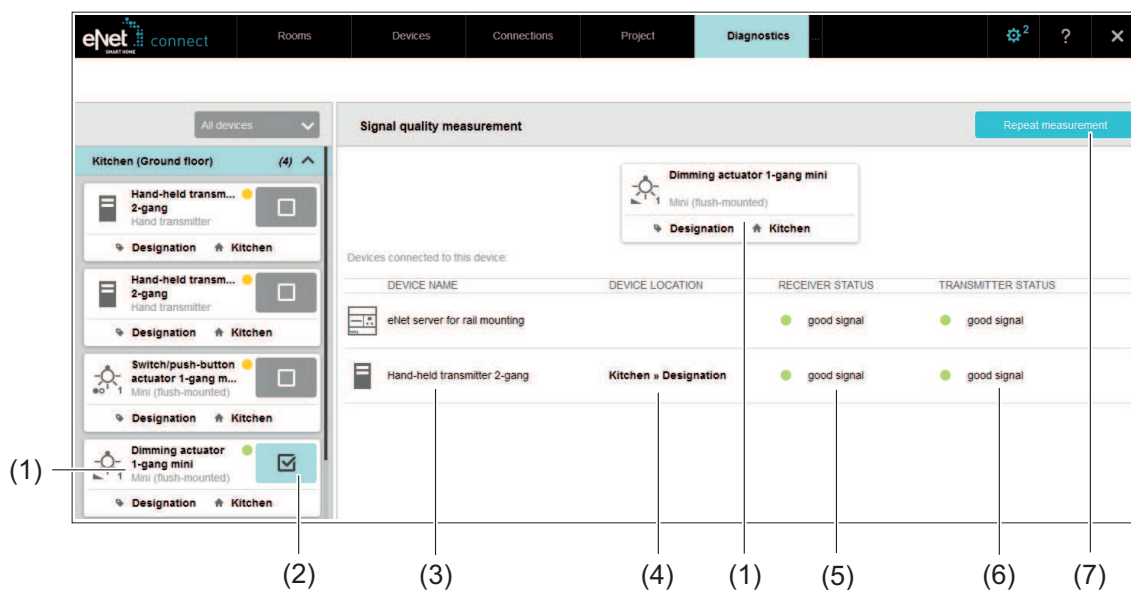

Figure 17: Signal quality measurement - example of dimming actuator
- (1) Selected device
- (2) Add or remove device
- (3) Connected device
- (4) Device location and designation of the connected devices
- (5) Reception quality of the connected device when it receives a telegram from the selected device - e.g. hand-held transmitter as receiver: The signal from the dimming actuator is received by the hand-held transmitter at a good quality level
- (6) Reception quality of the selected device when it receives a telegram from the connected device - e.g. hand-held transmitter as transmitter: The signal from the hand-held transmitter is received by the dimming actuator at a good quality level
(7) Repeat, start or stop measurement
**Procedure (Figure 17):**
- Select the desired device which should start the measurement (2).
- i** If a device has already been added, then it can be replaced by selecting another device. The device (1) and all connected devices are added to the work area (3).
- Select **Start measurement** (7).